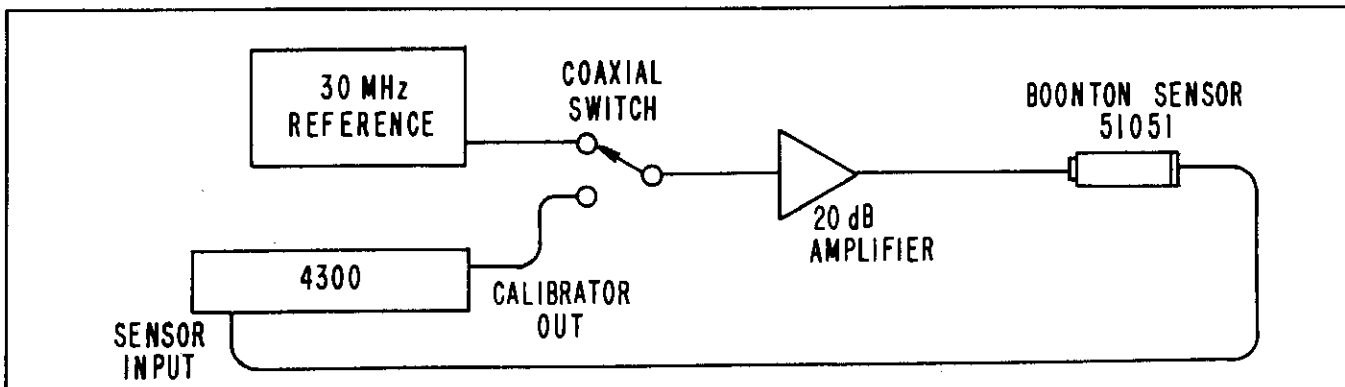

Figure 6-202. Calibration at 30 MHz Below 0 dBm
7. Connect the equipment as shown in Figure 6-202 and switch the coaxial switch to the 4300 calibrator. Cables should not be used between the calibrator and the sensors. Use rigid 90 degree couplers. The amplifier gain is not important since it is used for comparison measurements only.
16. Downscale Adjustment. The instrument should still be in the raw value mode and in the settled reading mode. Set up the equipment as shown in Figure 6-202, but do not use the amplifier. Set the 4300 and the reference to -20 dBm. Compare readings of both by alternating the coaxial switch. If they are more than two counts different, perform the above calibration again.